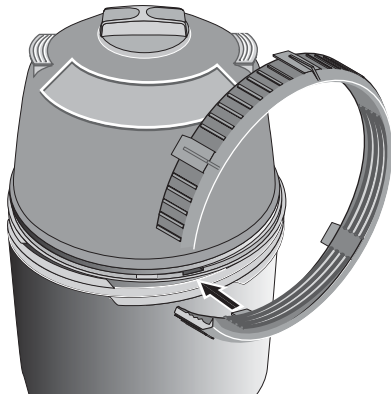

Figure 5 – Insert ring tab in slot in filter body.
6. Separate upper and lower tank shell halves using tabs on bottom of Posi-Lok™ ring. Insert tab into slot located at tank joint and twist ring to pry shell halves apart. See Figures 5 and 6.